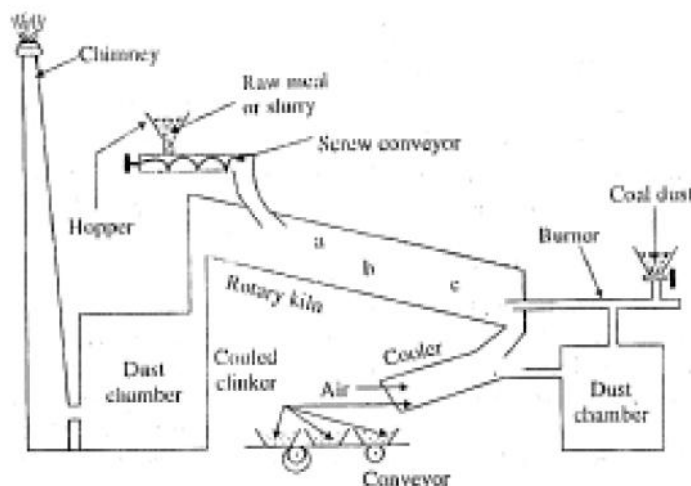

Fig. 36.1 : Rotary kiln used in the manufacture of cement.
- (i) **Wet process** : in this method the raw materials are treated with water (about 35-40 % by mass) and then powdered in ball mills. These raw materials can be treated individually or in the form of a mixture. The paste like material so obtained is then sieved and powdered further if necessary. This is then passed through a rotary kiln (Fig. 36.1) for calcination.